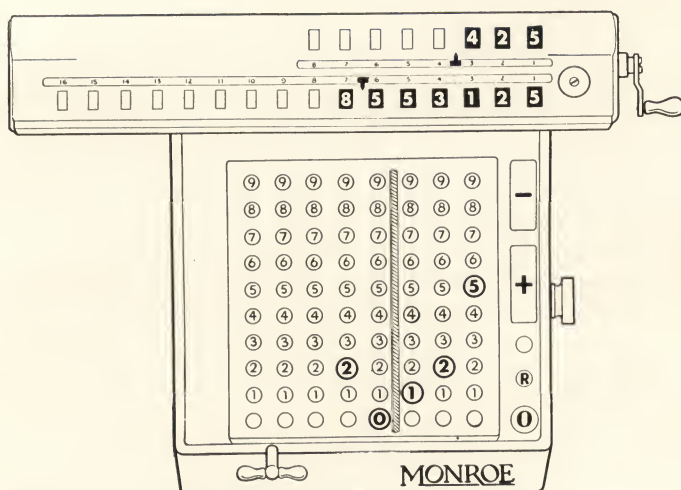

Figure 8
*Step 3*—The result in the lower dials will be 8.553125, correctly pointed off. See Figure 8. If the result is dollars and cents it would be copied from the lower dials as \$8.55, ignoring the terminal digits 3125. If these digits were 5125 instead of 3125, the half cent would be picked up and the result would be copied as \$8.56 instead of \$8.55.